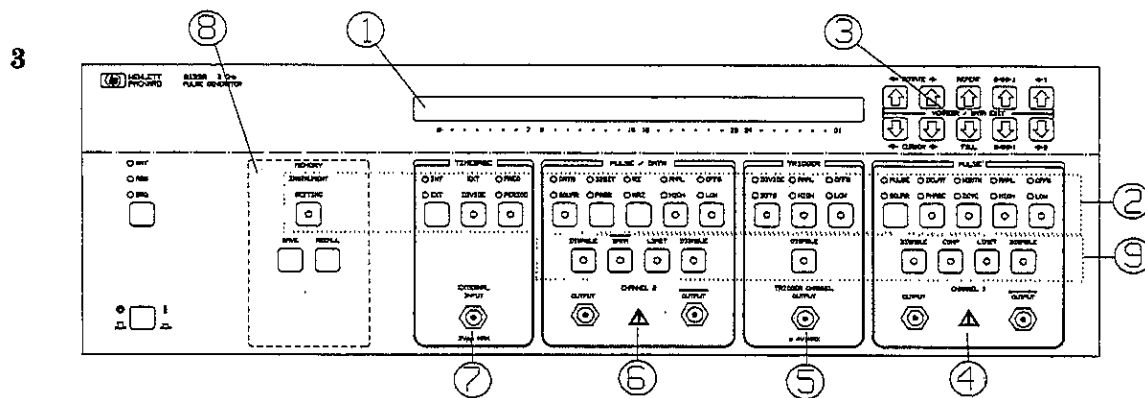

Figure 3-1. HP 8133A Frontpanel overview
Mode keys toggle between different operating modes. They are located in the upper row of keys, see Figure 3-1. The LEDs above the key indicate which mode is selected.
Parameter keys activate a parameter on the display. They are located in the upper row of keys, see Figure 3-1. Press once to activate the selected parameter indicated by the LEDs above the key. Press again to select and activate the alternative parameter. The LED in the key indicates that the parameter is active in the display.
Control keys toggle an output mode on or off. They are located in the lower row of keys, see Figure 3-1. The LED in the key is lit when the mode is on.
**Mode keys** Mode keys toggle between different operating modes. They are located in the upper row of keys, see Figure 3-1. The LEDs above the key indicate which mode is selected.
**Parameter keys** Parameter keys activate a parameter on the display. They are located in the upper row of keys, see Figure 3-1. Press once to activate the selected parameter indicated by the LEDs above the key. Press again to select and activate the alternative parameter. The LED in the key indicates that the parameter is active in the display.
**Control keys** Control keys toggle an output mode on or off. They are located in the lower row of keys, see Figure 3-1. The LED in the key is lit when the mode is on.